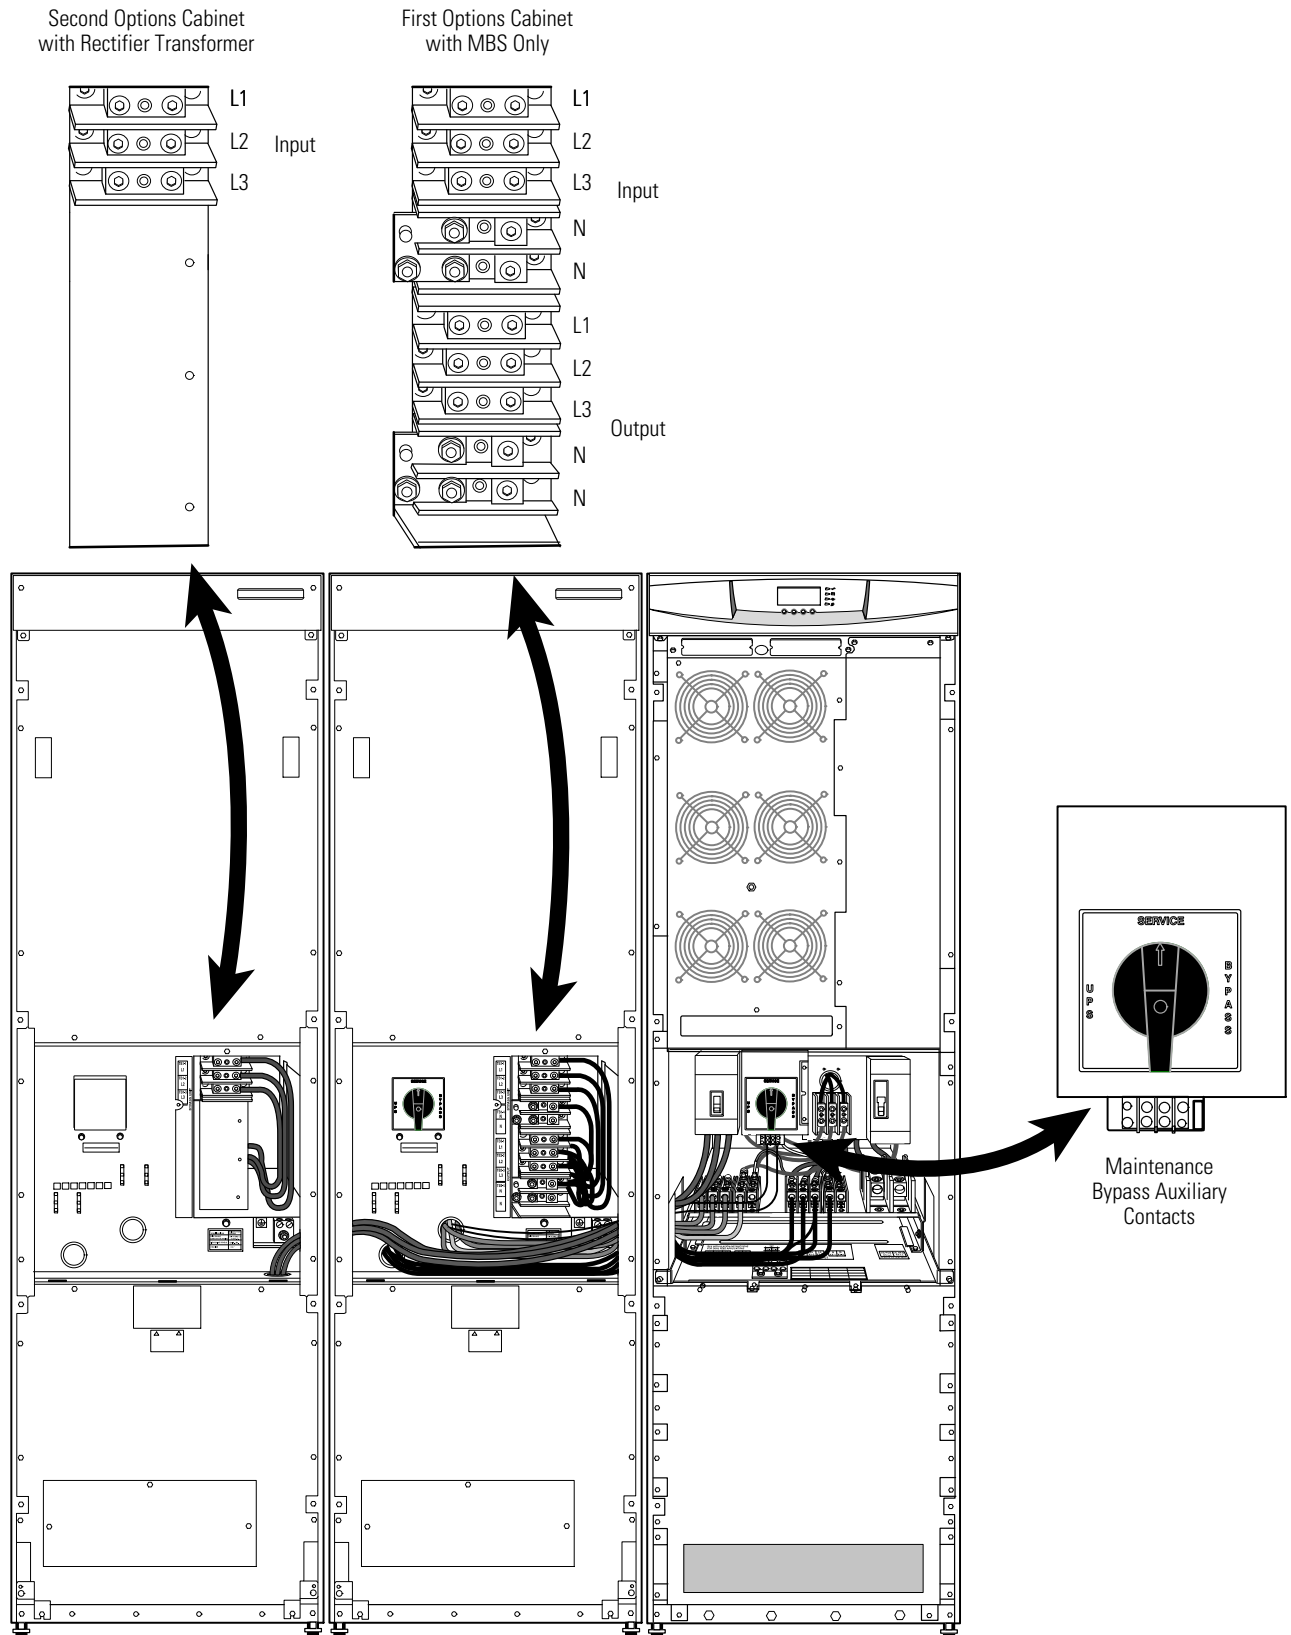

Figure 21. Options Cabinets with Dual-Feed Wiring
For a detailed view of both Options Cabinet terminal blocks, see Figure 21.
7. On the first Options Cabinet, route the maintenance bypass auxiliary wiring through the knockouts to the UPS and wire to the contacts below the MBS (see Figure 21).